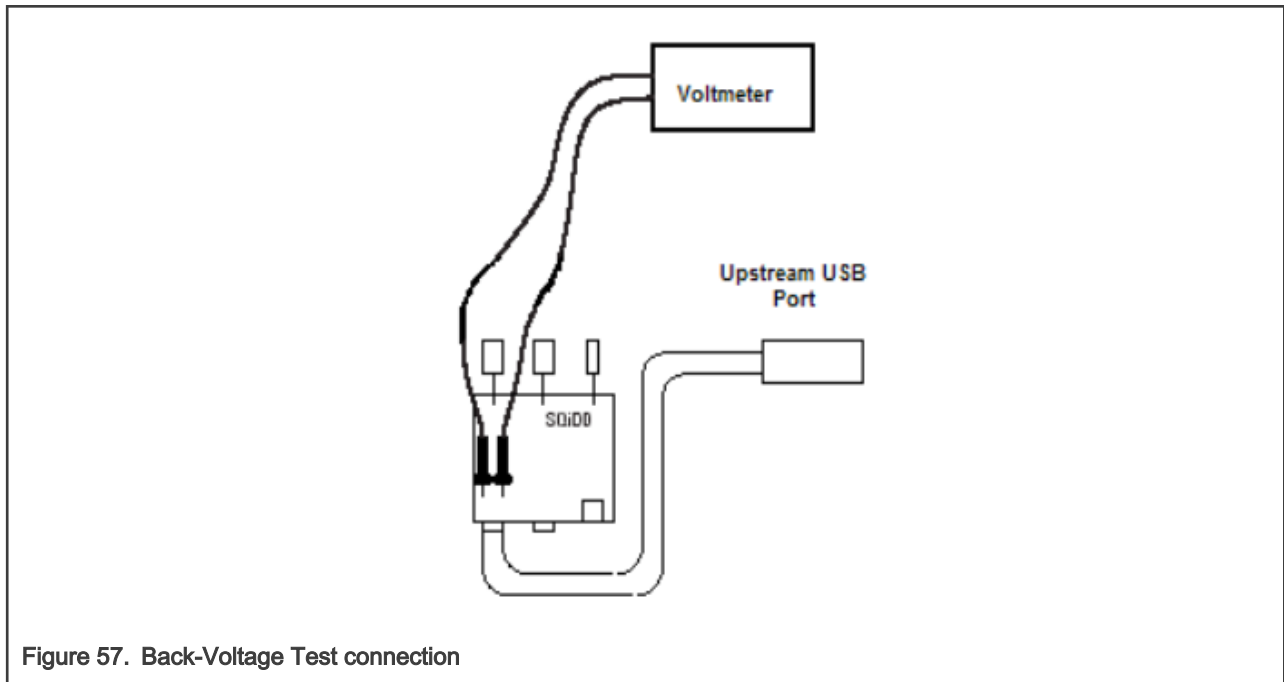

Figure 57. Back-Voltage Test connection
2. Use a known good USB cable to connect the power supply to the DUT and the device upstream port to the SQiDD board, as shown in Figure 57. Do not connect any Host. Click **Run Tests** in the USB automated test software on the oscilloscope.